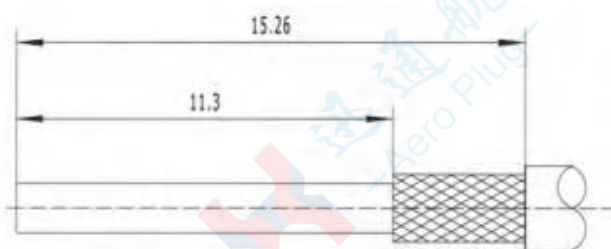

图8
① Strip the cable as shown in Figure 8. The end face must be cut clean and perpendicular to the cable's axial plane. The cable must not be deformed during cutting. Thermal stripping is recommended.